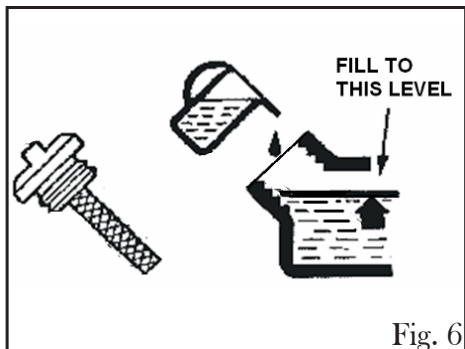

Fig. 6
3. Using a funnel, add the appropriate type and amount of oil into the crankcase. The crankcase is full when the oil level has reached the second thread from the lip of the opening (Fig. 6).